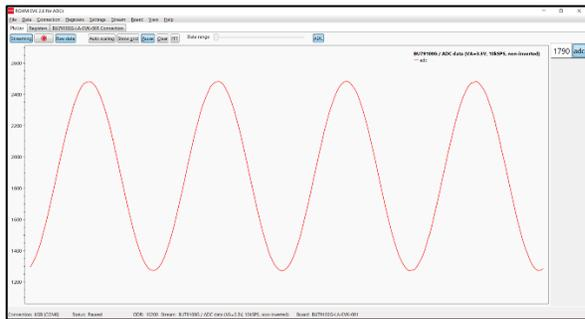

Figure 4. Example of the ADC Windows GUI window
4. If the settings are adjusted properly, data streaming should start automatically^{*3}, and the on-screen output should display real time output for BU79100G-LA.(Figure 4)